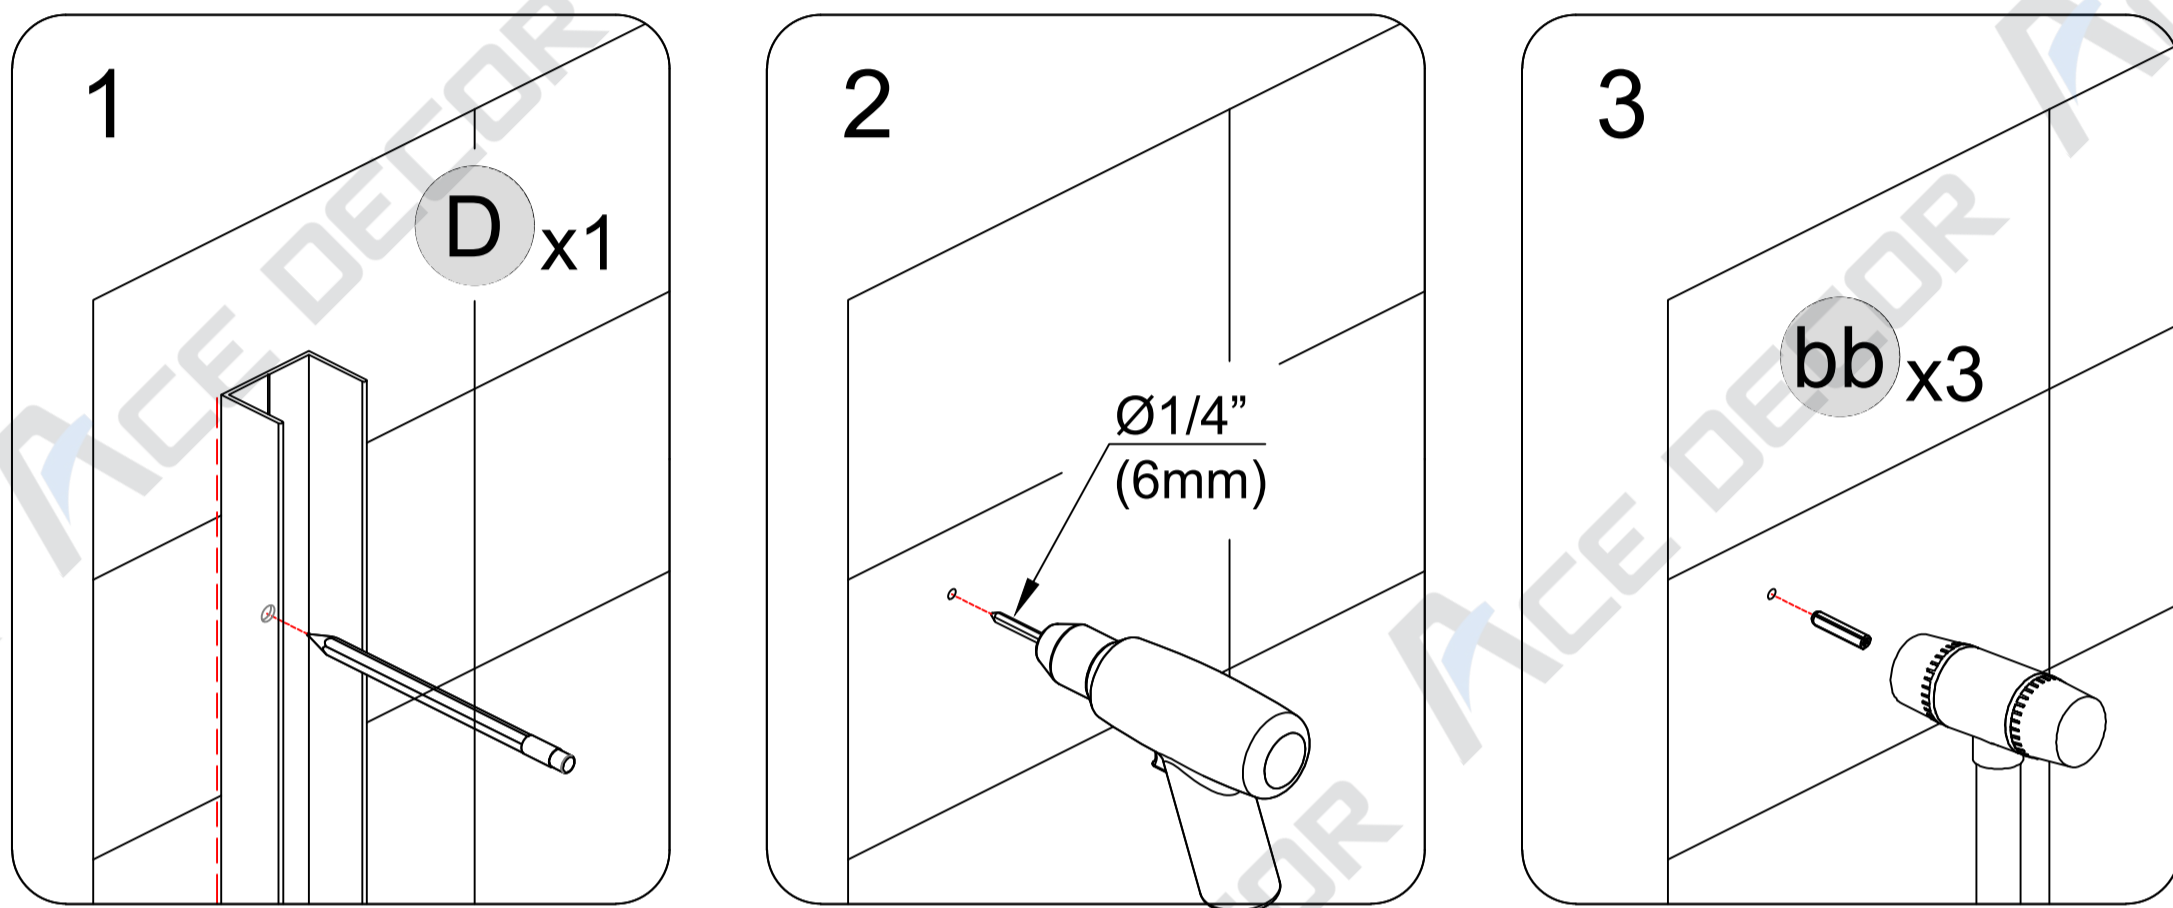

Fig 8
Move the frame assembly aside and remove the **Wall Jamb (D)**. Put **Wall Jamb (D)** back to the position marked in the previous step, and then mark the required hole. Drill the holes into the walls using a  $\text{Ø}1/4''$  (6mm) drill bit and insert the **Wall Anchors (bb)**. Repeat this process for the opposite wall jamb. (Fig 8)